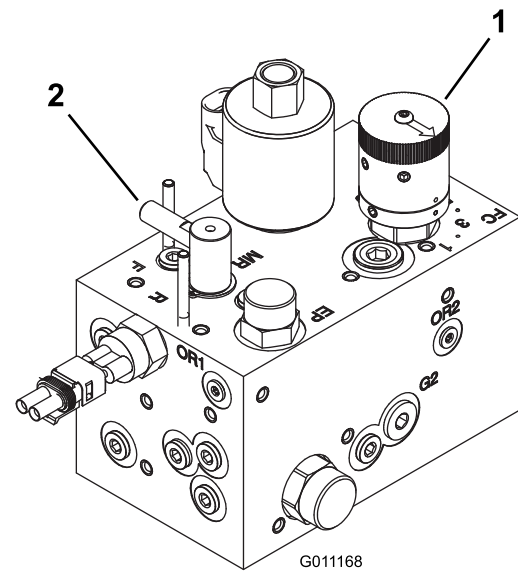

Figure 75
3. Rotate the backlap control to the backlap position (R). Rotate the reel speed control to position 1 (Figure 75).